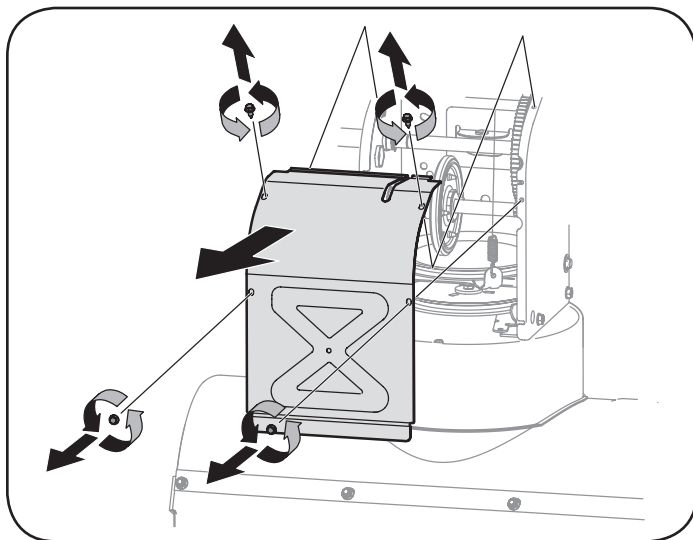

Figure 69
- Remove the frame cover from the underside of the snow thrower by removing four self-tapping screws which secure it. See Figure 69.